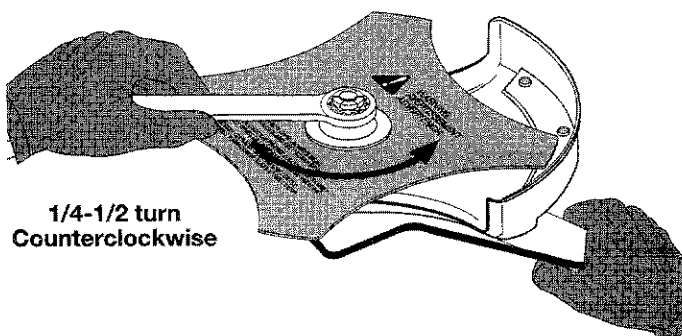

Fig. 13
- Tighten nut counterclockwise against the blade while holding the locking rod. (Fig. 13)
- Without a torque wrench, use a 5/8 inch closed-end or socket wrench, turning the nut until the blade retainer is snug against the shaft bushing. Make sure that the blade is installed correctly, then rotate the nut an additional 1/4 to 1/2 turn counterclockwise (Fig. 13).